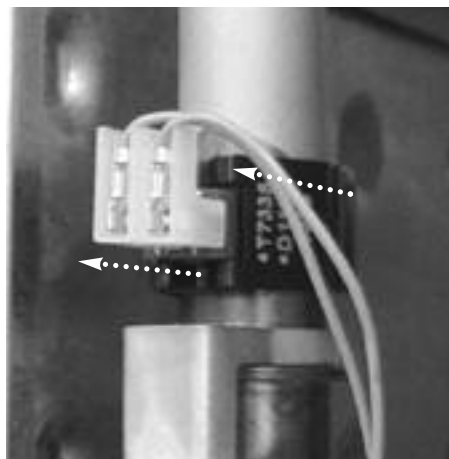

Fig. 96
2. Pull off the NTC connections. Then remove the NTC from the pipe by releasing its securing clip (see Fig. 96).